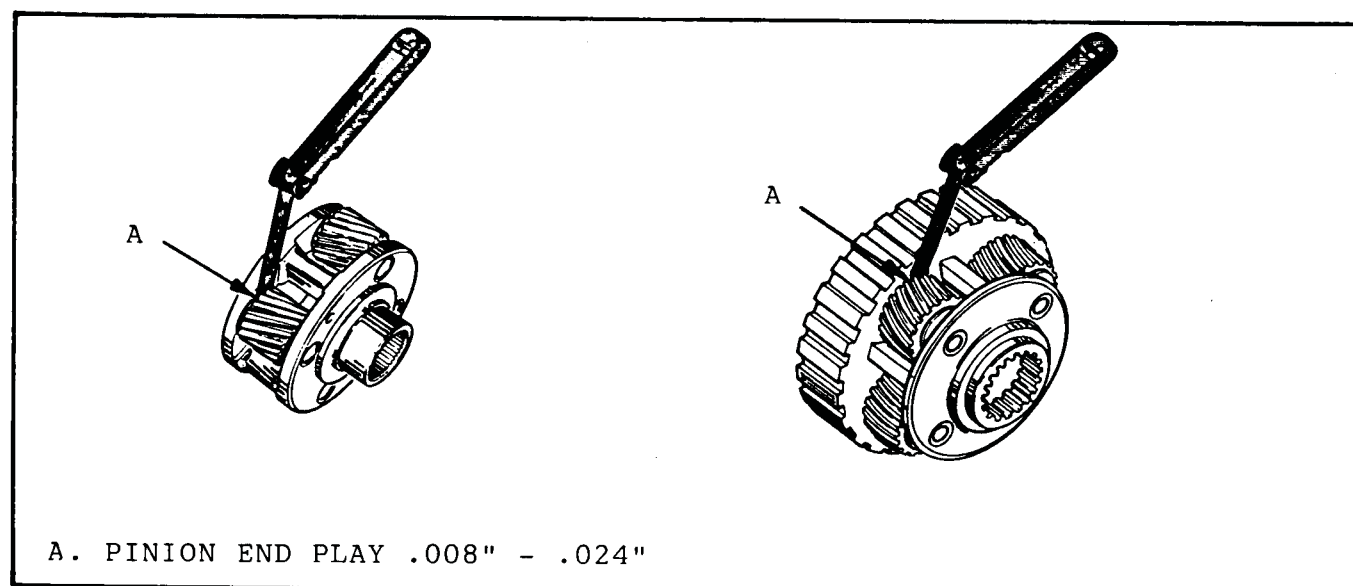

Figure 60
- *Reaction carrier assembly for pinion gear damage, proper pinion staking, stripped splines, peening on clutch lugs, and for excessive pinion washer wear. Pinion end play is .008"/.024" (See Figure 60).
- *Pinion gear damage or worn thrust washers. Pinion end play should be .008" - .024". (Figure 60).